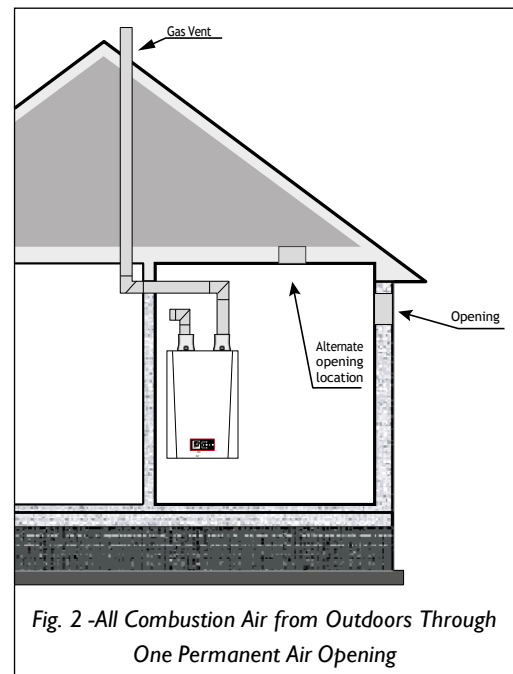

Fig. 2 -All Combustion Air from Outdoors Through One Permanent Air Opening
- **One Permanent Opening Method .** One permanent opening, commencing within 12 in. of the top of the enclosure, shall be provided as shown in Fig. 2 below. The equipment shall have clearances of at least 1 inch from the sides and 6 in. from the front of the appliance. The opening shall directly communicate with the outdoors or shall communicate through a vertical or horizontal duct to the outdoors or spaces that freely communicate with the outdoors and shall have a minimum free area of the following: